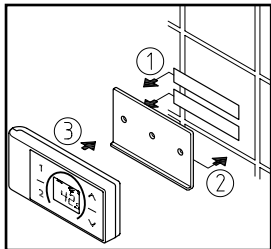
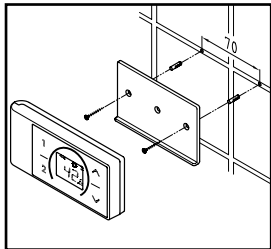

Figure 1:
Figure 2:
- The wall bracket of the remote control can either be attached securely with the included adhesive tape, after stripping off the protection film (as shown in fig. 1) on a plain surface (e.g. a tile) or with suitable dowels (\varnothing 4 mm) and screws (as shown in fig. 2).